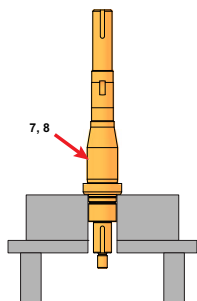

Figure 47 - Grease Shaft
1. Lubricate the front bearing area of the shaft (Figure 47, item 7, 8) with oil or grease. Place it upright in a hydraulic press with the liquid end down.